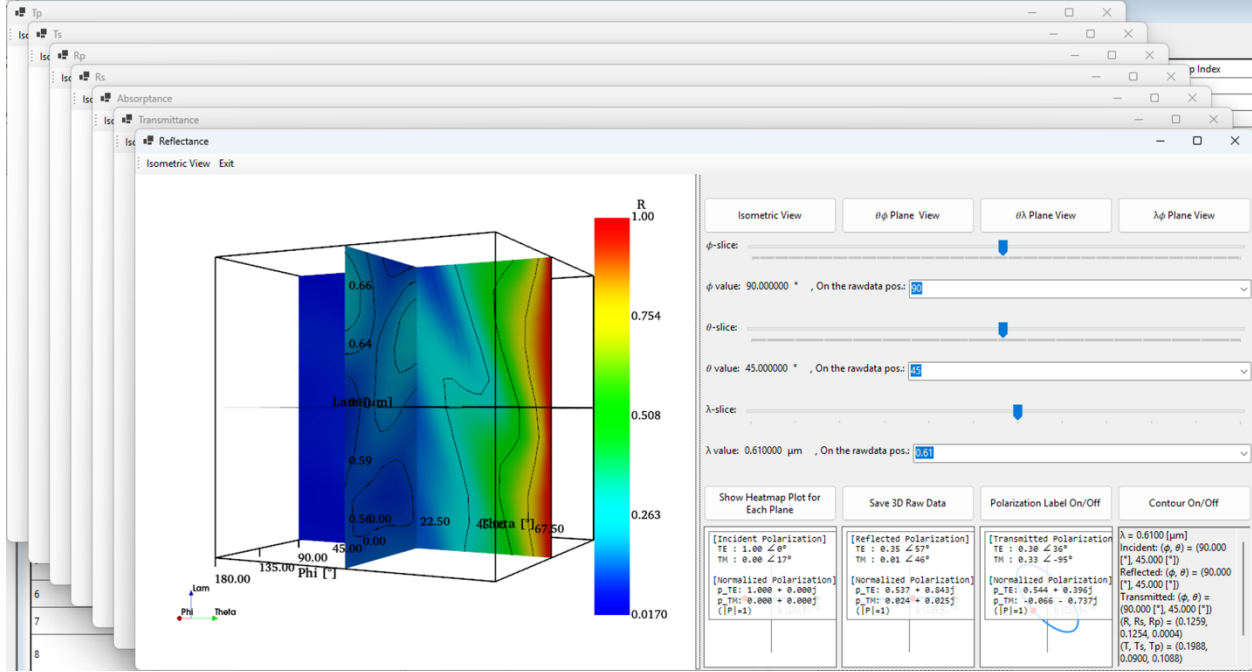

Figure 22. Windows showing visualized results related to each title
- After the simulation is complete, the result windows will appear as shown in Figure 22. Titles of all windows are 'Reflectance', 'Transmittance', 'Absorptance', 'Rs', 'Rp', 'Ts', and 'Tp', respectively.